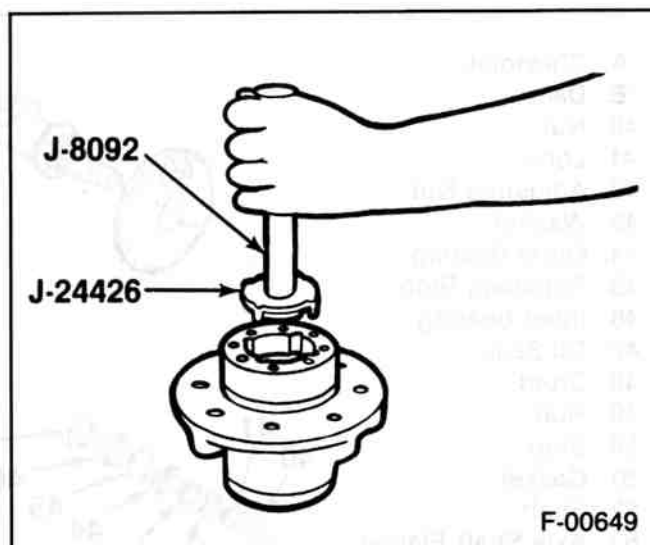

Figure 25—Removing Outer Bearing And Cup
6. Outer bearing (44) or (59) using J-8092 with J-24426 (figure 25).
- Drive the bearing (44, 59) and cup from the hub (49).
1. Outer bearing (44, 59) into the hub (49).
- Outer cup into the hub (49) using J-8092 and J-8608. **Be sure J-8608 is installed upside down on the driver handle J-8092.**
- 2. Retaining ring (45) or (60) into the groove.
- Drive the outer bearing cup against the retaining ring (45) or (60) using J-8092 and J-24426 (figure 25).
- 3. Inner bearing (46) or (61).
- Drive the inner bearing cup into place until seated against the shoulder of the hub (49) using J-8092 and J-24427.
- 4. Oil seal (47) or (62). Use J-24428 to install the new oil seal (47, 62).
- 6. Axle shaft (52) as outlined earlier in this section.